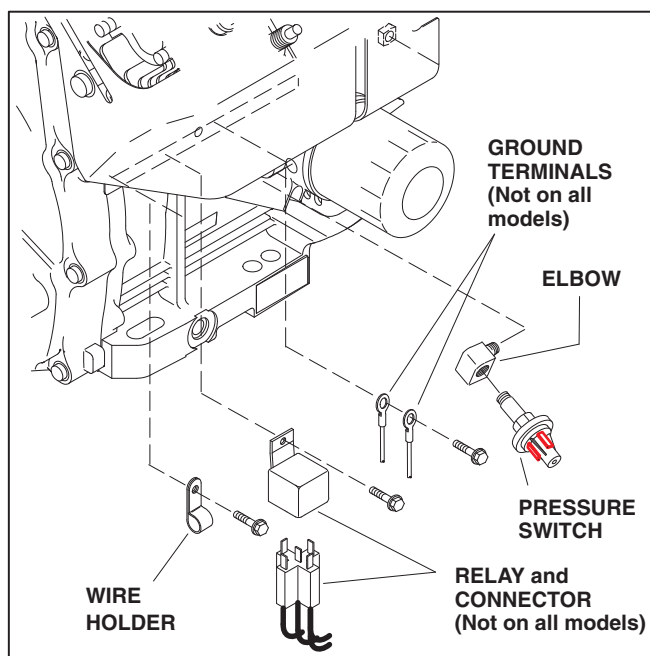

FIGURE 6-19.
1. Attach the wire holder, relay and connector, and ground terminals to the engine crankcase under the #1 cylinder baffle. (See Figure 6-19.)